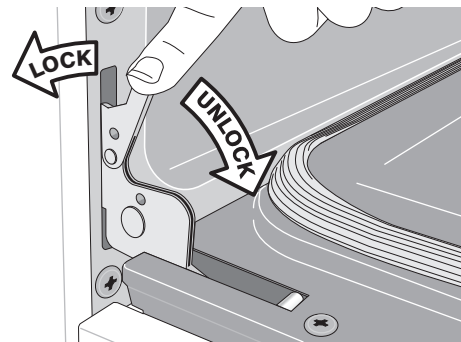

Figure 30: Door hinge locks
2. Pull the door hinge locks on both left and right door hinges down from the oven frame completely toward the oven door (See Figure 30). A tool such as a small flat-blade screwdriver may be required.
4. Push the door hinge locks up toward and into the oven frame on both left and right oven door hinges to the locked position (Figure 30).